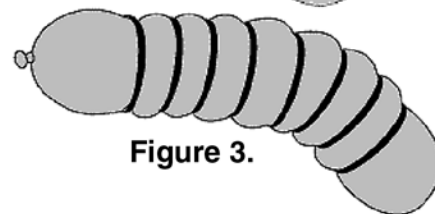

Figure 3.
4. Use a Slinky as an alternative to the rubber bands. Place the Slinky on a desktop and pick up one end. Slip in the balloon and inflate it. As the balloon inflates, it will be pinched in a spiral pattern by the Slinky. The pattern will achieve the same result as the rubber bands (see fig. 3).